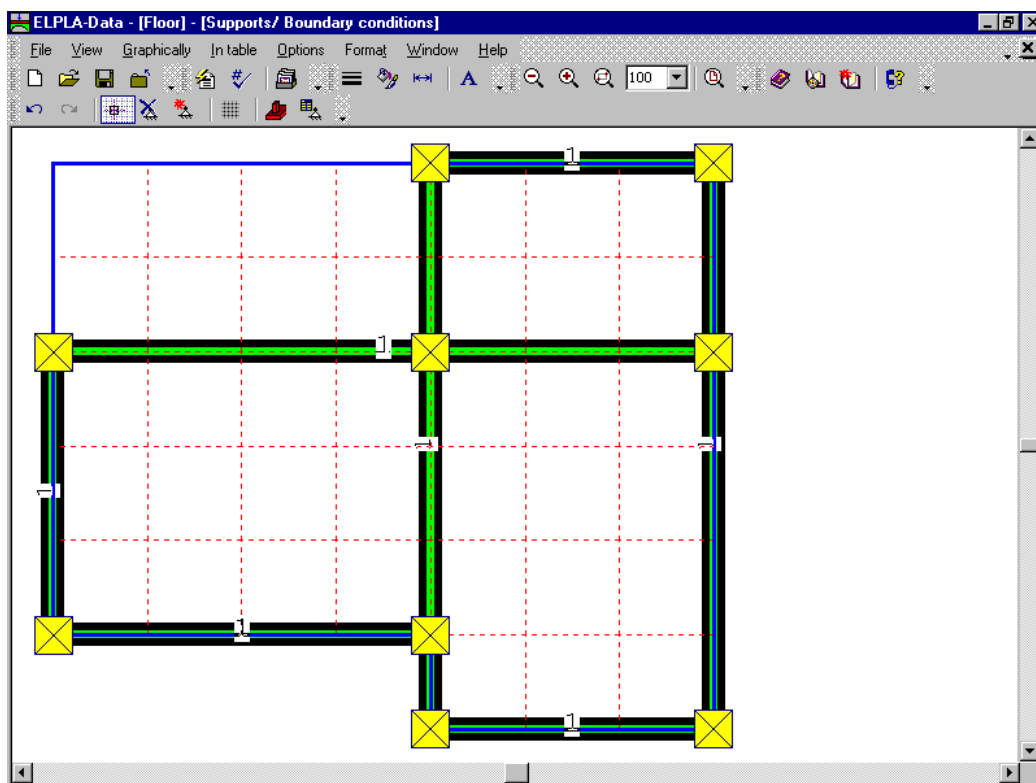

Figure 2-26 Supports on the screen
After you have completed the definition of the supports, the screen should look like the following Figure 2-26.
- Choose "Save supports/ Boundary conditions" command from "File" menu in Figure 2-26 to save the data of supports
- Choose "Close supports/ Boundary conditions" command from "File" menu in Figure 2-26 to close the "Supports/ Boundary conditions" embedded program and to return to the main window of *ELPLA-Data*